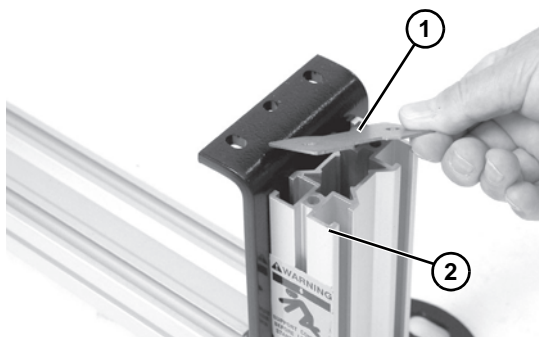

Figure 9
12. Align end cap (**Figure 9, item 1**) with top of leg assembly (**Figure 9, item 2**).